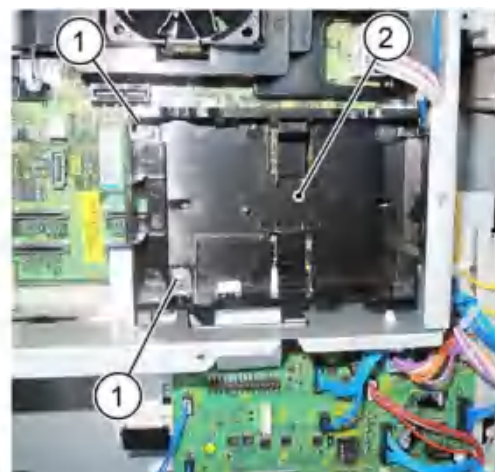

Figure 3 HDD bracket removal
4. If an HDD assembly is installed, remove two screws (1), then the HDD bracket (2), Figure 3.